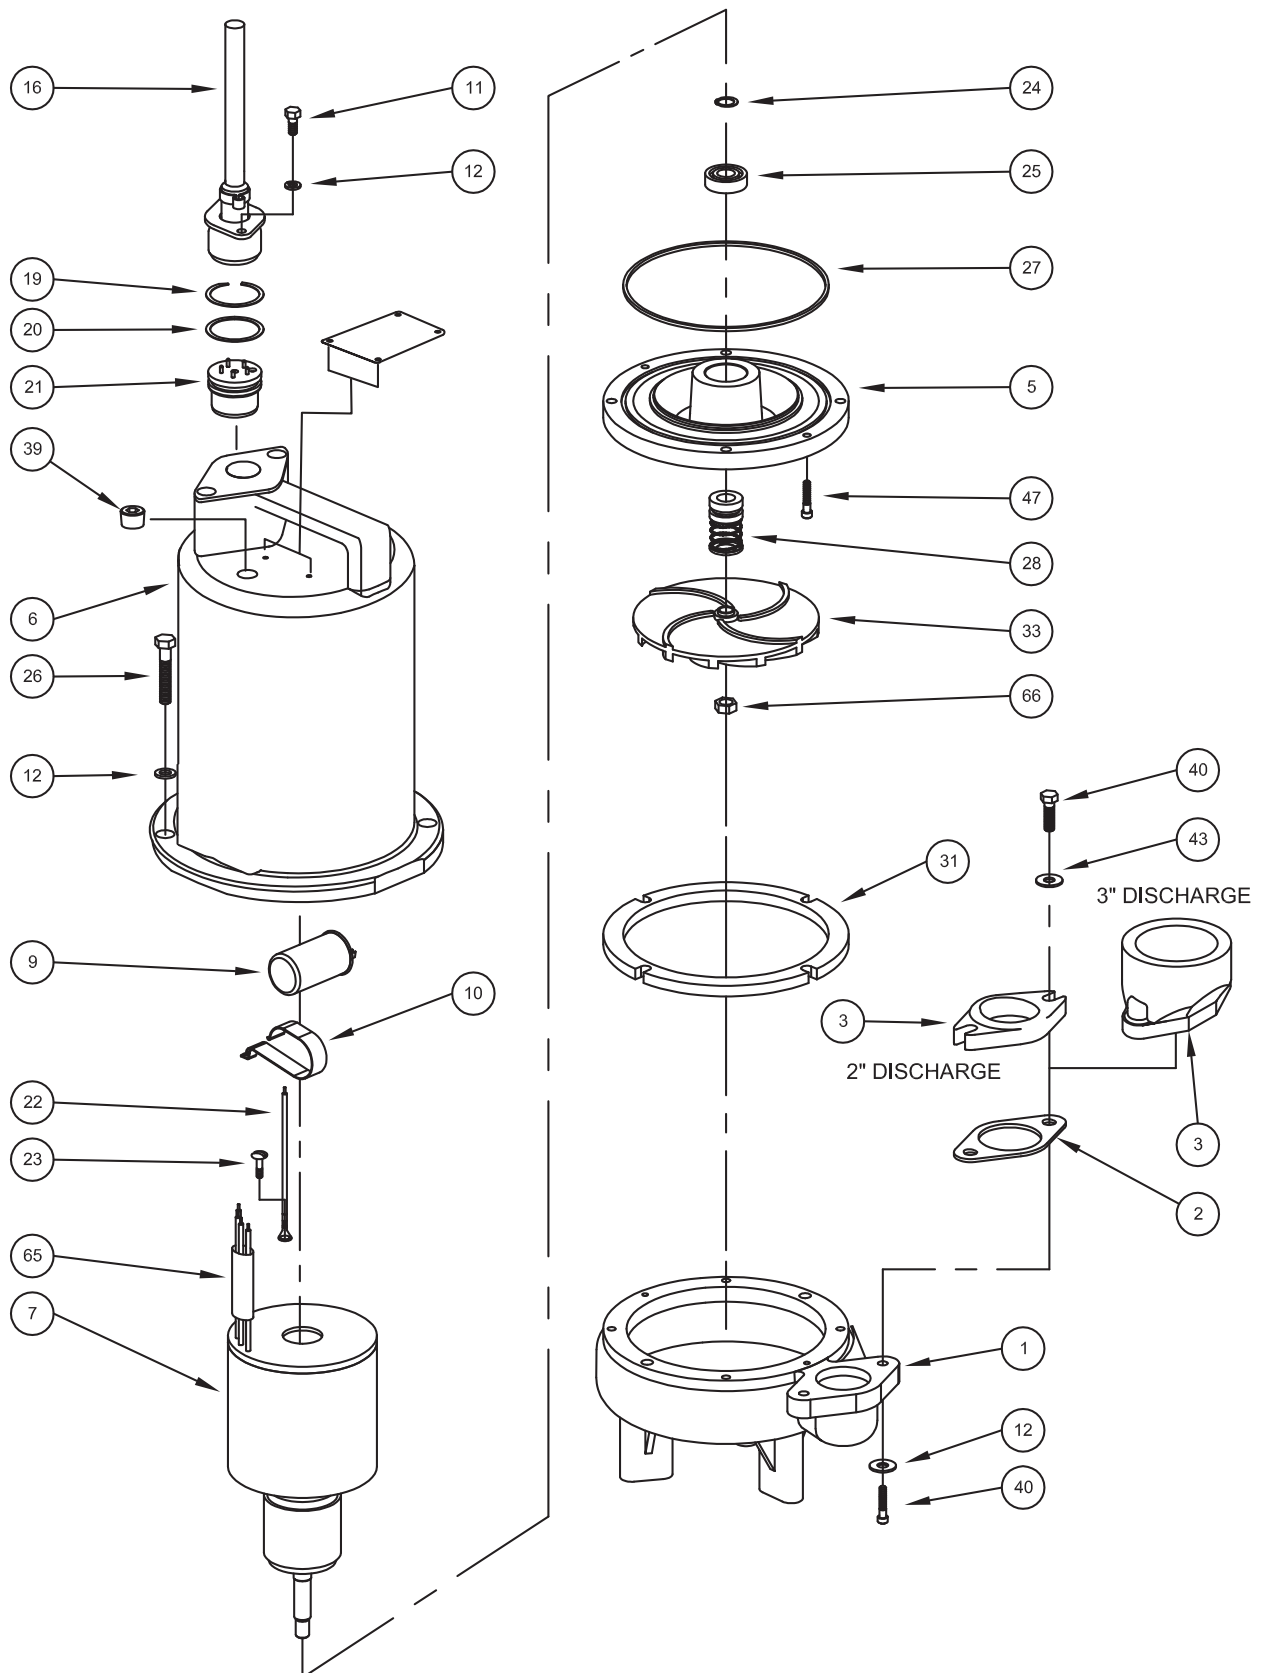

FIGURE 17
Moisture Sensors, DS Models - If pump is equipped with optional moisture sensors, reassemble by applying thread compound to threads on probes (4) and install in upper seal plate (5), see Figures 17 and 18. Connect wire assemblies (53) to probes (4) with washers (46) and machine screws (45).